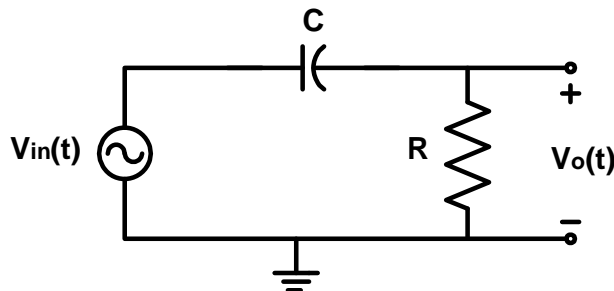

Fig. 2A. First order high pass filter (integrator)
1. For the circuit shown in Fig. 2A, derive the transfer function for  $v_o/v_{in}$  in terms of  $R$ , and  $C$ , and find the expressions for the magnitude and phase responses. Express your results in the form
2. Build the RC high pass circuit shown in Fig. 2A using the  $R$  and  $C$  values designed in the pre-laboratory exercise. Obtain the frequency response of the filter using the bode analyzer SFP as shown in part C.